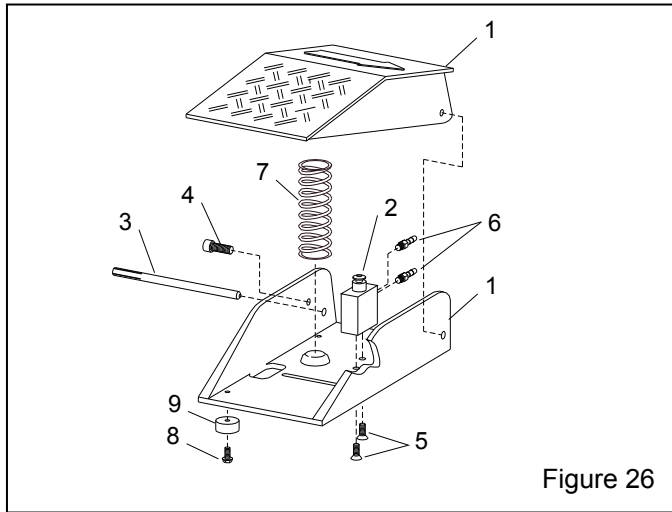

Figure 26
8.4 Foot Pedal Assembly, Figure 26